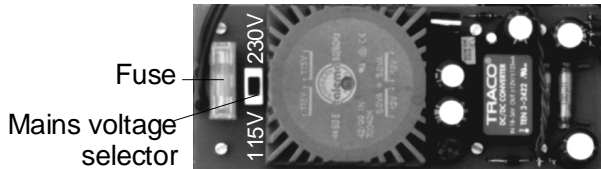

Figure 2: Power Supply PCB
- Set the switch to the required voltage (Figure 2).
**Replacing the fuse** The fuse holder is located on the power supply PCB inside the instrument case (see Figure 2). To replace the fuse, take off the plastic lid of the fuse holder first. Make sure that the fuse to be replaced corresponds to the value on the rating plate.